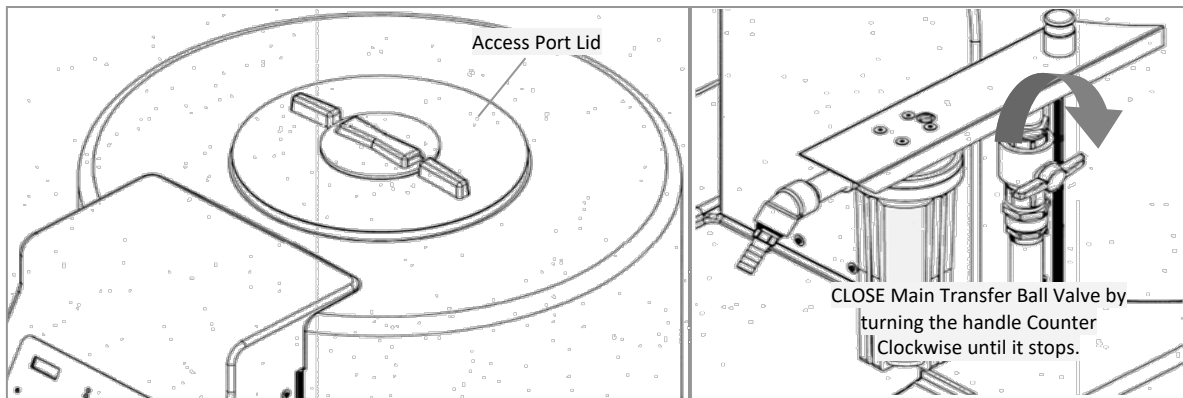

Figure 1
1. Before initiating the *RINSE CYCLE*, the operator must ensure that the GranuFlo Dissolution Unit II Access Port Lid in place (do not fully secure) and the Main Transfer Ball Valve is in the CLOSED position. Make sure the Water Supply Valve is OPEN ( Figure 1).